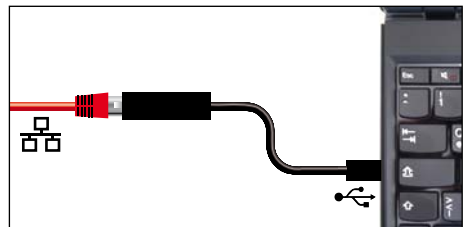

Fig. 7 USB to Ethernet converter
- ▶ USB to Ethernet converter (Fig. 7). Makes it possible to connect the Ethernet connection interface (see page 13) to the USB port of a computer / laptop.